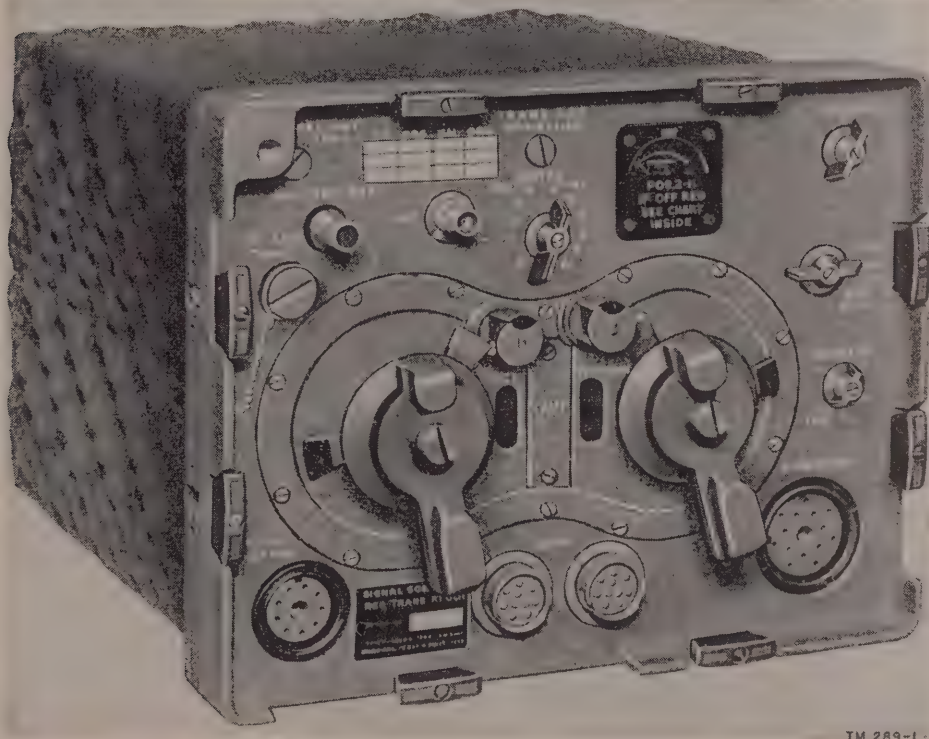

Figure 4. Receiver-Transmitter RT-66/GRC.
one another only in their operating frequency ranges and in those components which determine the frequency range. Therefore, Receiver-Transmitter RT-66/GRC (fig. 4) is externally similar to the other receiver-transmitters except for the calibrations of the tuning dial. Characteristics pertinent to system operation are listed in paragraph 5. Complete information on the receiver-transmitters is contained in a separate technical manual.
d. Structurally, the receiver-transmitters are panel-chassis assemblies inclosed in a metal case (fig. 4). The bottom of the case is fitted with channel rails which are used to secure the unit to the vehicular mounting (par. 31). When the case is removed, the r-f and i-f (intermediate-frequency) chassis assemblies are available at either side of the unit (figs. 47, 48, and 49). All tubes are mounted on these vertical chassis.
cables bear identifying nomenclature similar to the panel receptacles to which they should connect (figs. 4, 5 and 6). For example, the plug on the end of cable W-3 is designated REC TR CONTROL.